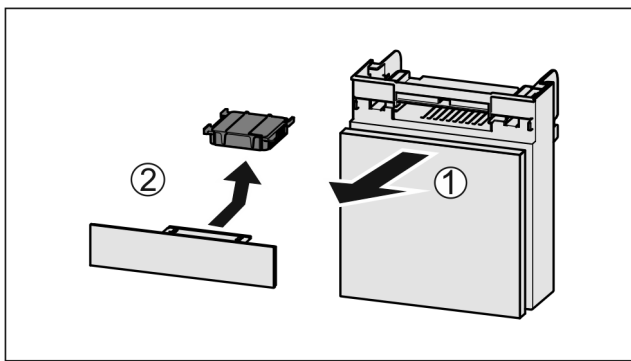

Fig. 155
- ▶ Pull out the compartment Fig. 155 (1).
- ▶ Remove the carbon filter Fig. 155 (2).